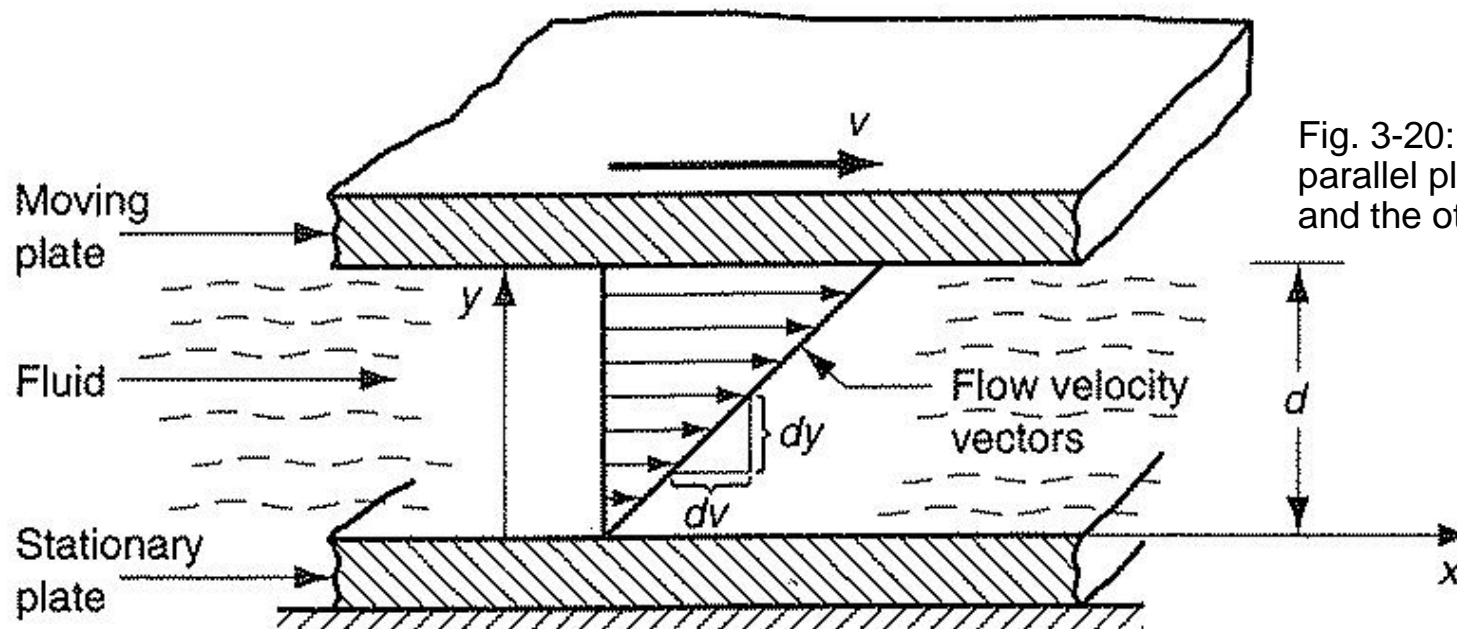

Fig. 3-20: Fluid flow between two parallel plates. One is stationary and the other is moving.
- Considering Fig. 3-20, viscosity can be defined more precisely.